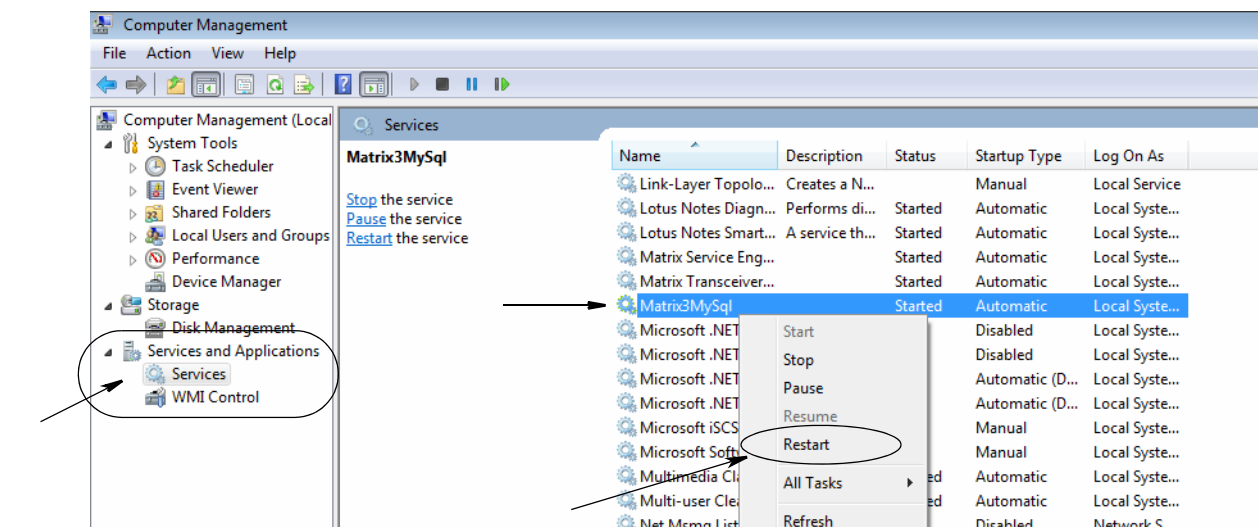

FIG. 203
- b. On the left hand side, expand Services Applications. Click on Services. In the list to the right locate Matrix3MySql. Right click on it. Select the restart option from the pop up menu (FIG. 203).
- c. On the left hand side, expand Services and Applications. Click on Services. In the list to the right locate Matrix3MySQL. Right click on it. Select the restart option from the pop up menu (FIG. 203).